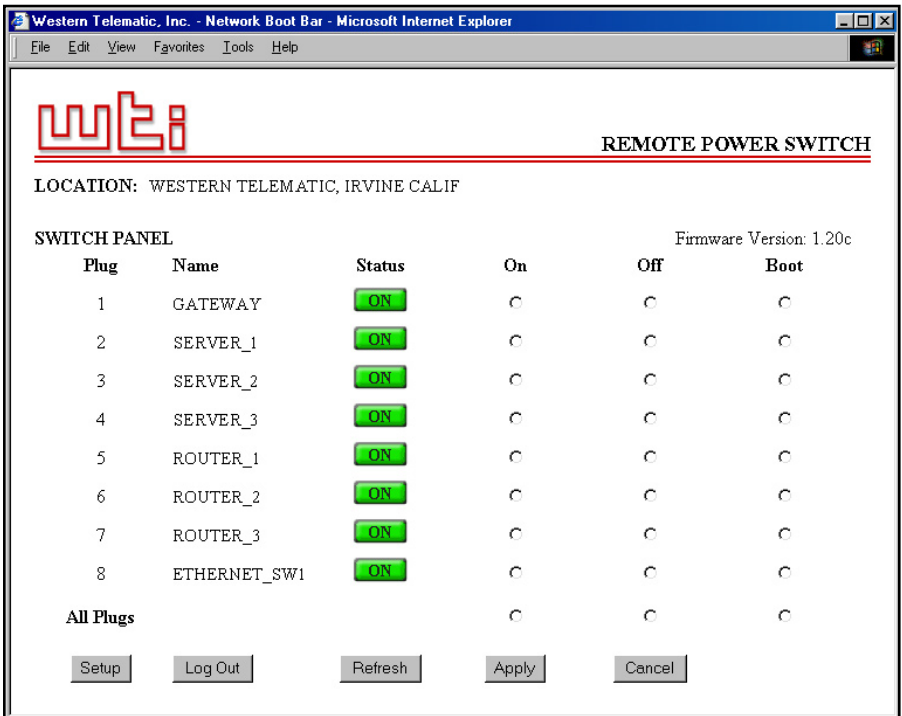

Figure 1: Plug Status Screen - Web Browser Interface (Model IPS-800 Shown)
- a) **Web Browser Interface:** Start your JavaScript enabled Web Browser. Enter the IPS's default IP address (192.168.168.168) in your browser address bar and then press **[Enter]**. A password prompt will be displayed. Since at this point, the user name and password have not yet been defined, you can simply click OK without keying in a user name or password. The Plug Status Screen will be displayed as shown in Figure 1.